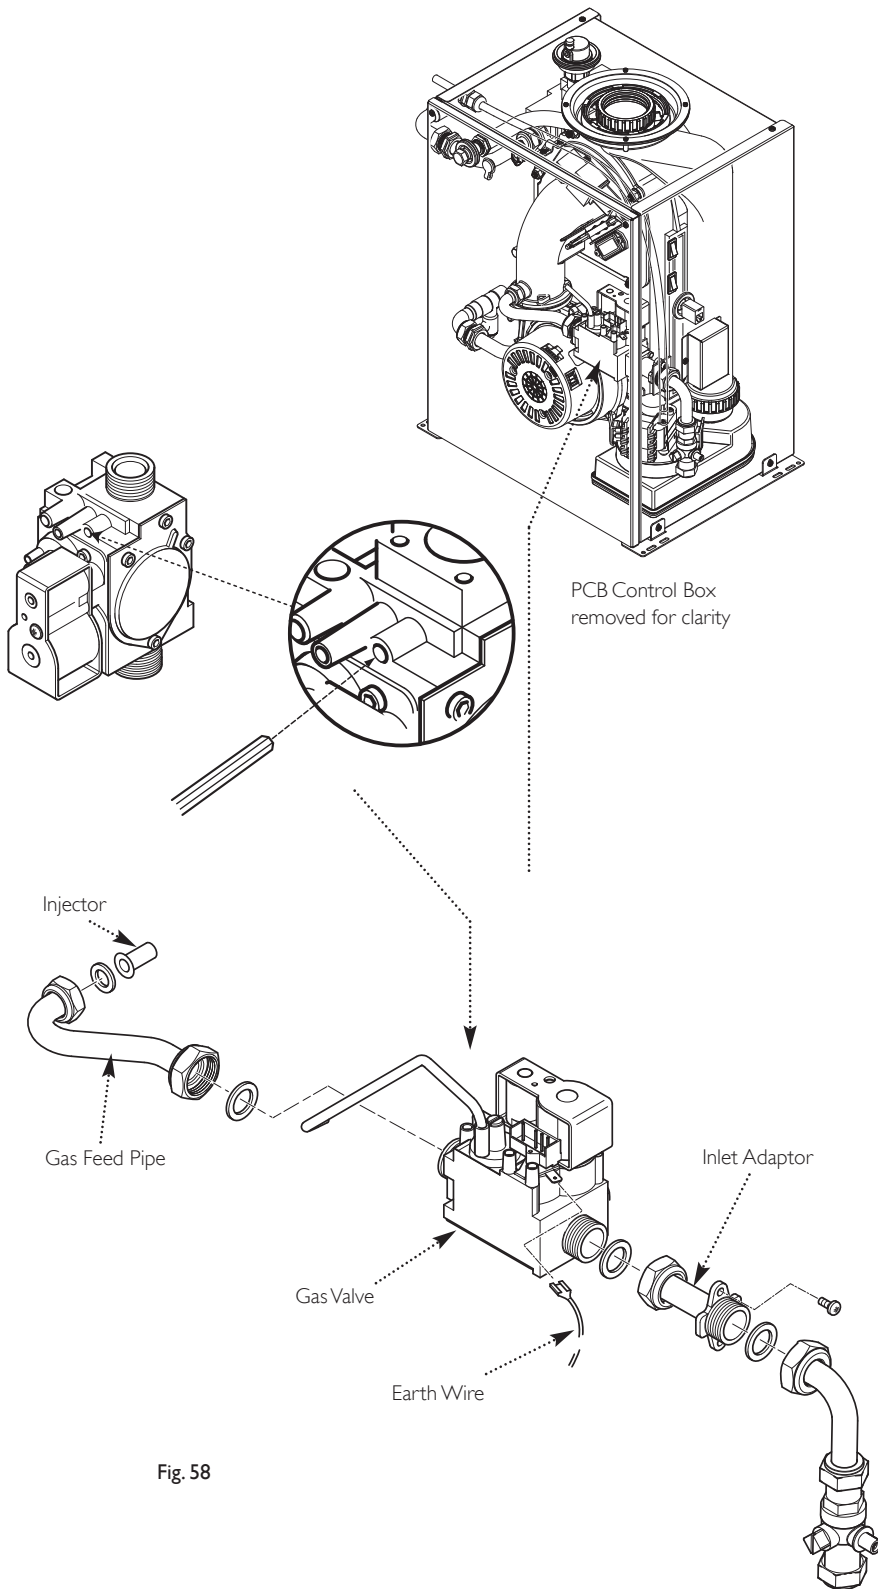

Fig. 58
9.8 Gas Valve (Fig. 58)
NOTE: To assist the boiler to light prior to final setting, use a suitable hexagon key to wind out the Gas/Air adjustment screw until it is flush with the valve body, then turn the screw 4 full turns clockwise (Fig. 58). If the boiler will not light, or the correct CO₂ cannot be achieved contact the 'heateam' technical helpline.